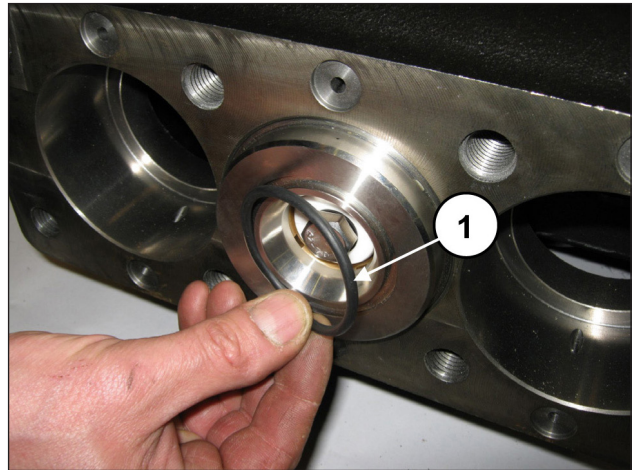
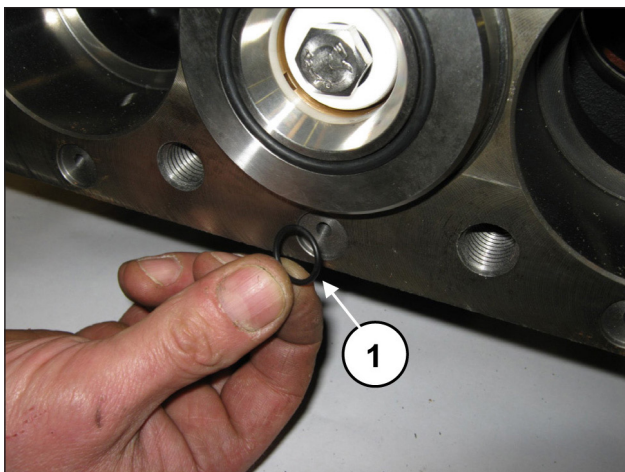

Fig. 187
Fig. 188
Install the front O-ring in the liner (pos. ①, Fig. 187) and the recirculation hole O-ring (pos. ①, Fig. 188).